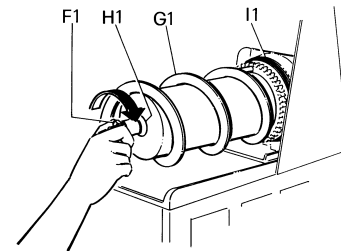

FIGURE 22
12. Unscrew the fastening knob (F1) clockwise as the direction indicated by the arrow (threading to the left) and extract the spiral scraper (G1) and the seals (H1) and (I1). Clean the individual parts thoroughly (FIGURE 22).